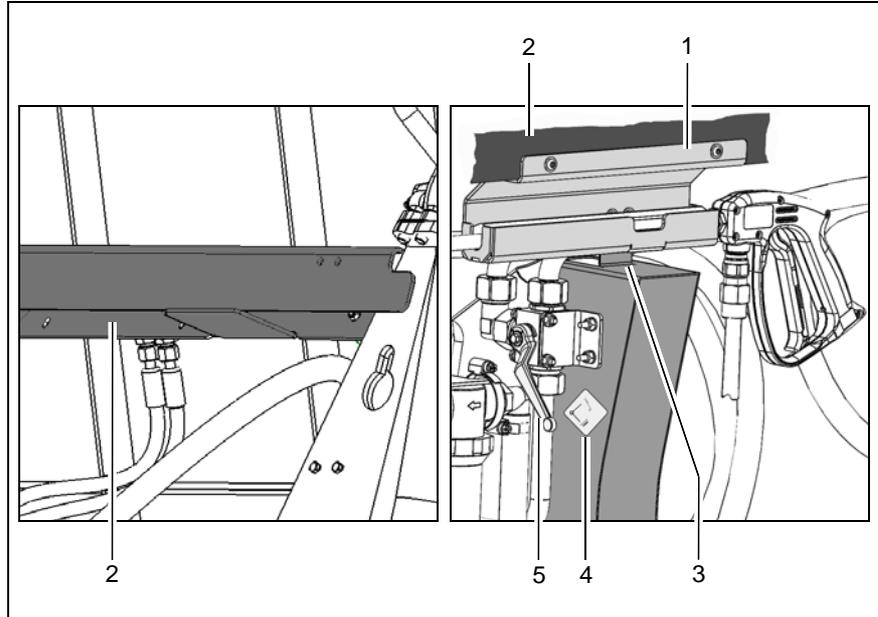

Fig.4
1. Fasten the lance holder (Fig. 4/1) with two M6x20 bolts to the upper cross-beam (Fig. 4/2) of the dirt hopper from behind.
2. Fit the lance holder with the two lower bolts to the tab of the hose holder (Fig. 4/3).
Affix the label (Fig. 4/4) to the side of the hose holder. The position of the label corresponds to the lever positions of the hand valve (Fig. 4/5).